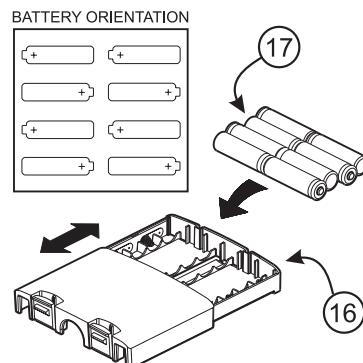

Figure 9 – Installing Alkaline Batteries.
- Place the base of the battery pack at the rear of the battery compartment (A). Push the front edge of the battery pack into position (B). The two battery clips will "click" into position to hold the battery pack in place (see figure 9).